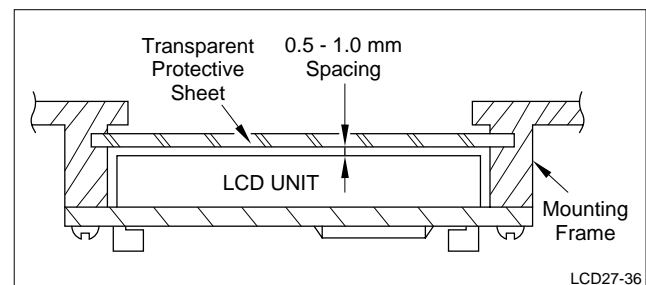

Figure 13. Sample Design
- b. An acrylic sheet, or the like, may be used to protect the LCD panel. A spacing of 0.5 mm to 1.0 mm should be used between the protective plate and the LCD panel. (See Figure 13.)